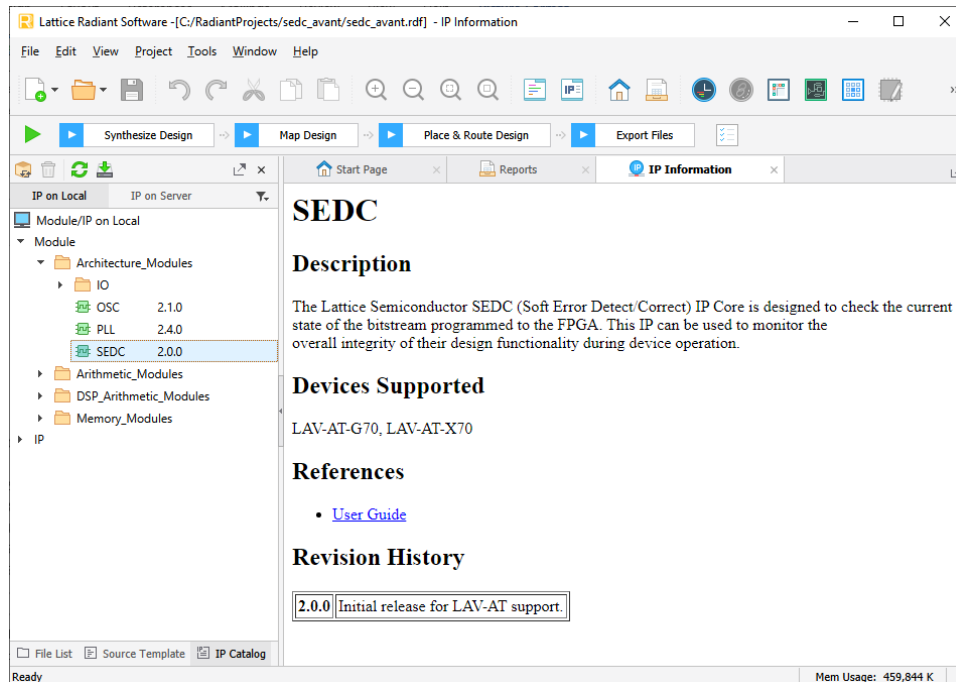
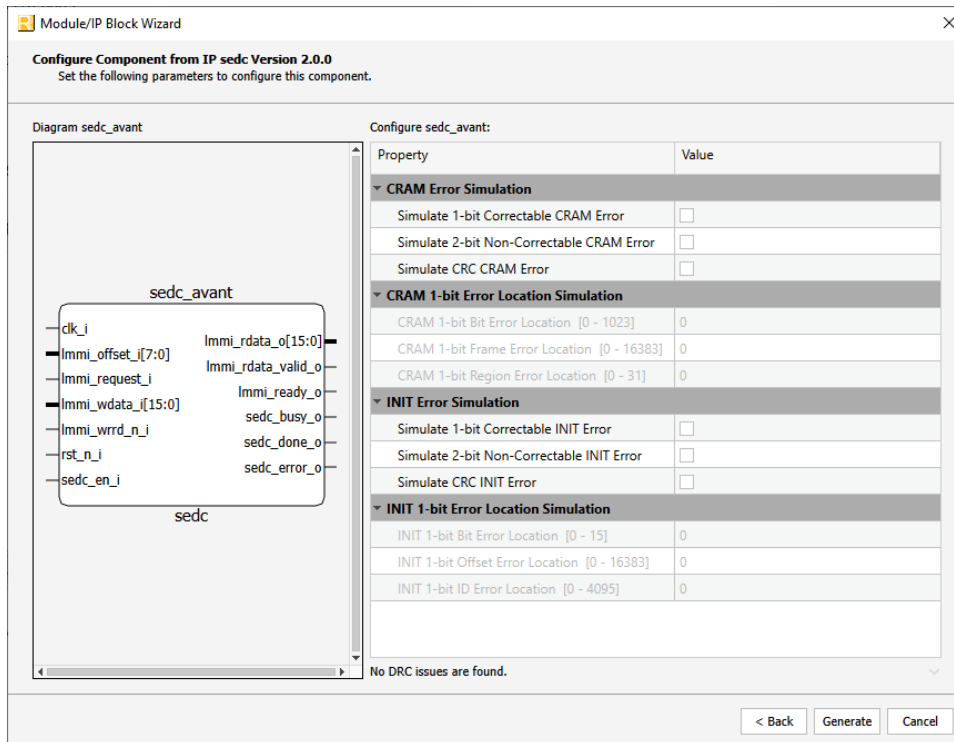
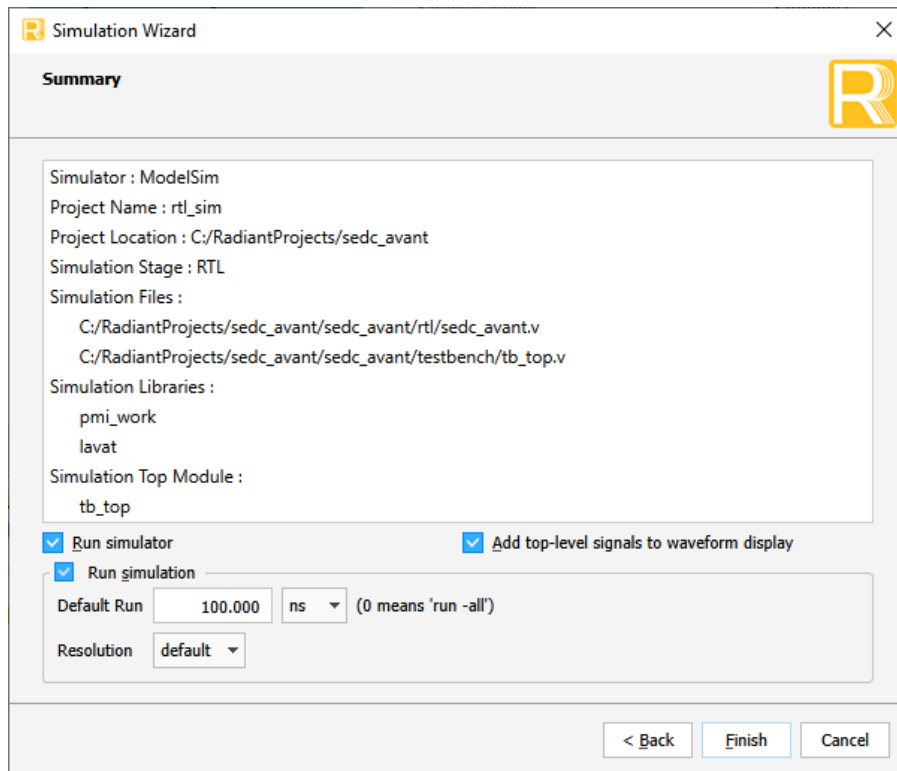

Figure 3.1. IP on Local, with SEDC Selected Under Architecture
Figure 3.3. Configuration Window
Figure 3.7. Simulation Wizard Summary
- Update the configuration parameters as necessary as shown in Figure 3.3.
3. Click **Next**. The **Summary** window is shown in Figure 3.7. Click **Finish** to run the simulation.
IP Generation and Evaluation	<ul style="list-style-type: none"> Updated the existing steps in 3.1 Generating and Synthesizing the IP section to be more concise. Added step 5, and Table 3.1 to the existing steps in 3.1 Generating and Synthesizing the IP section. Updated Figure 3.1, and Figure 3.3 in 3.1 Generating and Synthesizing the IP section. Removed section 3.2 Generated Files and Top-Level Directory Structure and replaced with section 3.2 Running Functional Simulation. Updated Figure 3.5 – Figure 3.7 in 3.2 Running Functional Simulation section. Removed Note: Register addresses used in simulation are different from actual addresses detailed in Register Description section. Refer to the register list in testbench/tb_top.v in the generated IP for the list of register addresses used in simulation from step 3 of 3.2 Running Functional Simulation section.